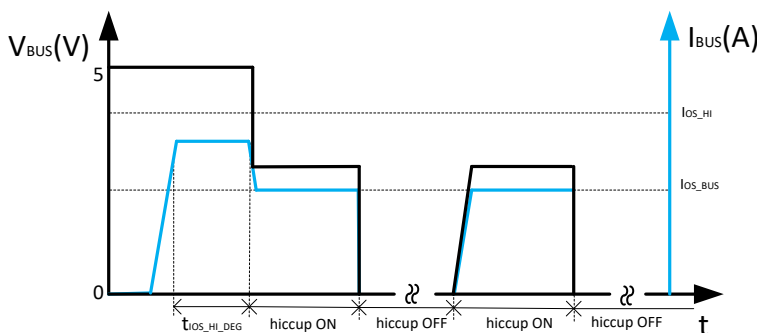

图 10-6. BUS Overcurrent Protection
- The second condition is the load current increases above  $I_{OS\_BUS}$  but below the  $I_{OS\_HI}$  setting. The device allows the USB port to output this large current for  $t_{IOS\_HI\_DEG}$ , without limiting the USB port current to  $I_{OS\_BUS}$ . After the  $t_{IOS\_HI\_DEG}$  deglitch time, the device limits the output current to  $I_{OS\_BUS}$  and works in a constant current-limit mode. If the load demands a current greater than  $I_{OS\_BUS}$ , the USB output voltage decreases to  $I_{OS\_BUS} \times R_{LOAD}$  for a resistive load, which is shown in 图 10-6. If the overcurrent limit condition lasts longer than 4.1 ms, the corresponding USB channel enters hiccup mode with 524 ms of off-time and 4.1 ms of on-time. Another USB channel still works normally.